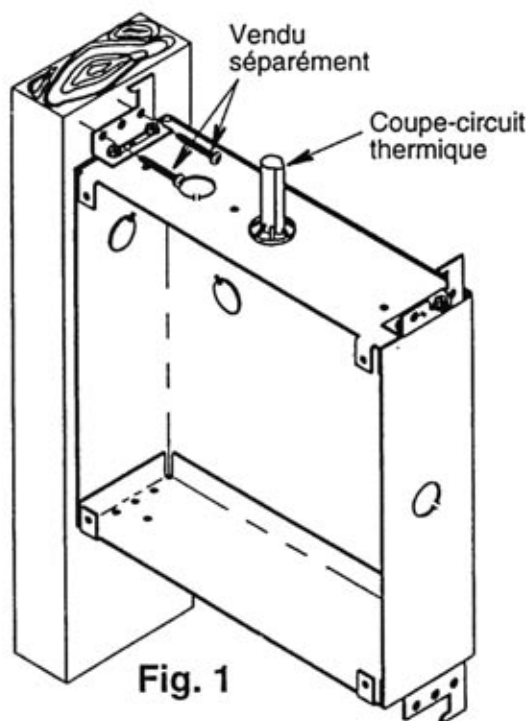

Fig. 1
Drive #10 screws (2) through each adjustable bracket into the housing, using the 3-hole pattern locate one screw in the center hole. Locate a second screw in the hole closest to the opening for ceiling/walls with a thickness greater than 1/2", use the farthest hole for thinner ceiling/walls. See Fig. 1.
4. Mount the box using the installed brackets. If wall mounted; the thermal protector should be pointing up. (see Figure 1) The mounting brackets may be nailed, screwed or bolted to any solid structure. They may also be hung from cable or placed over a "C" channel (provided by others). See Figures 1 & 2 for mounting ideas.